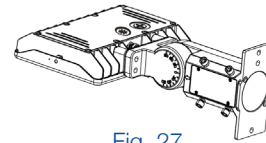

Fig. 27
1. Remove all parts as shown. (Fig. 27).